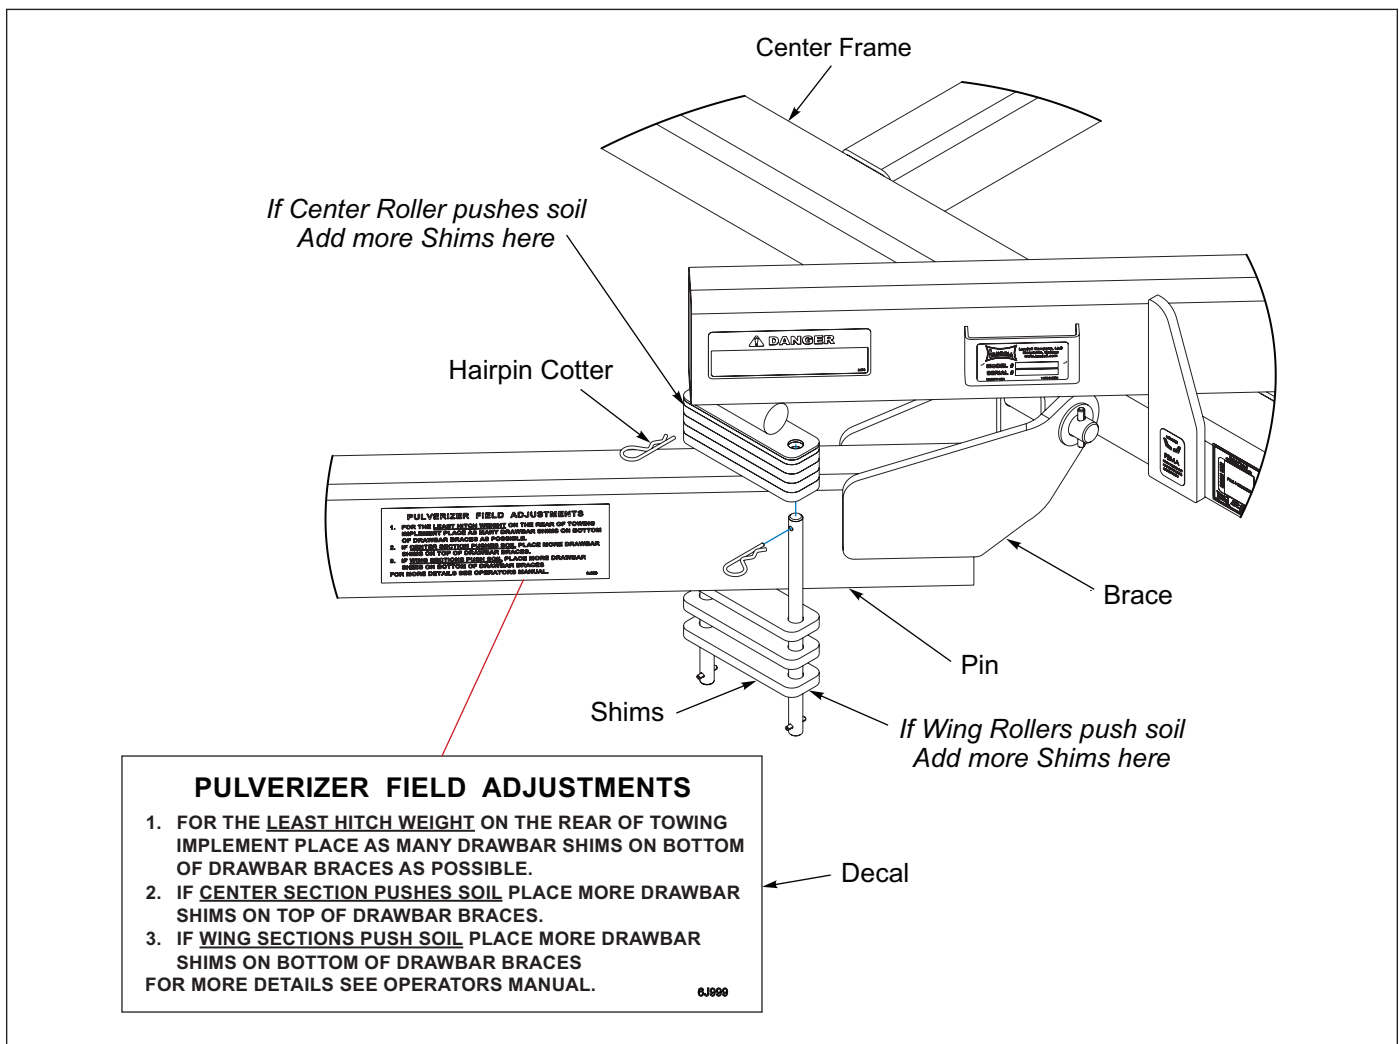

Figure 3-9: Drawbar Adjust
1. Place Shims on top of the Brace if the Center Roller pushes soil and place Shims under the Brace if Wing Rollers push soil. The placement of Shims must be identical on both sides of Pulverizer. **See Figure 3-9.**